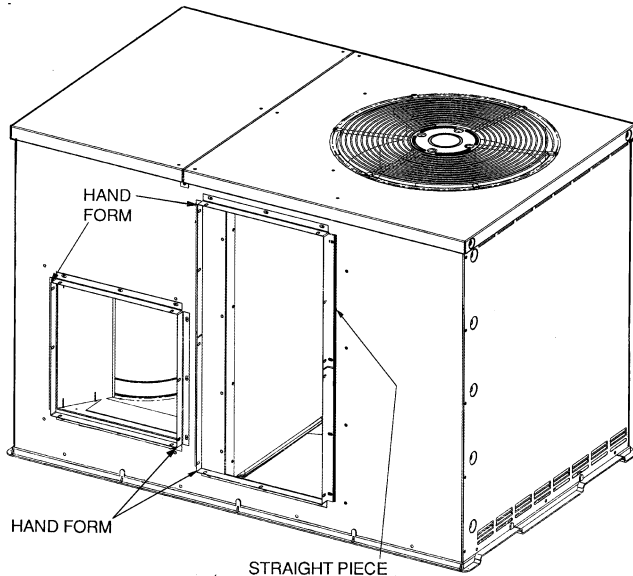

Fig. 10 — Installation of Duct Flanges (Size 060 Only)
3. Install the straight flange on the right side of the return air opening in holes provided. See Fig. 10. Flanges should stick out from unit to allow for connection of ductwork.